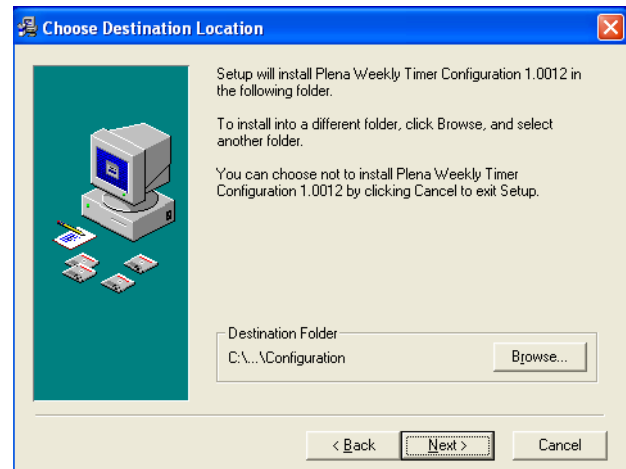

figure 8.2: Choose destination location
- 2 Follow the instructions on the window, and then click [Next]. A window similar to the one in figure 8.2 will appear.